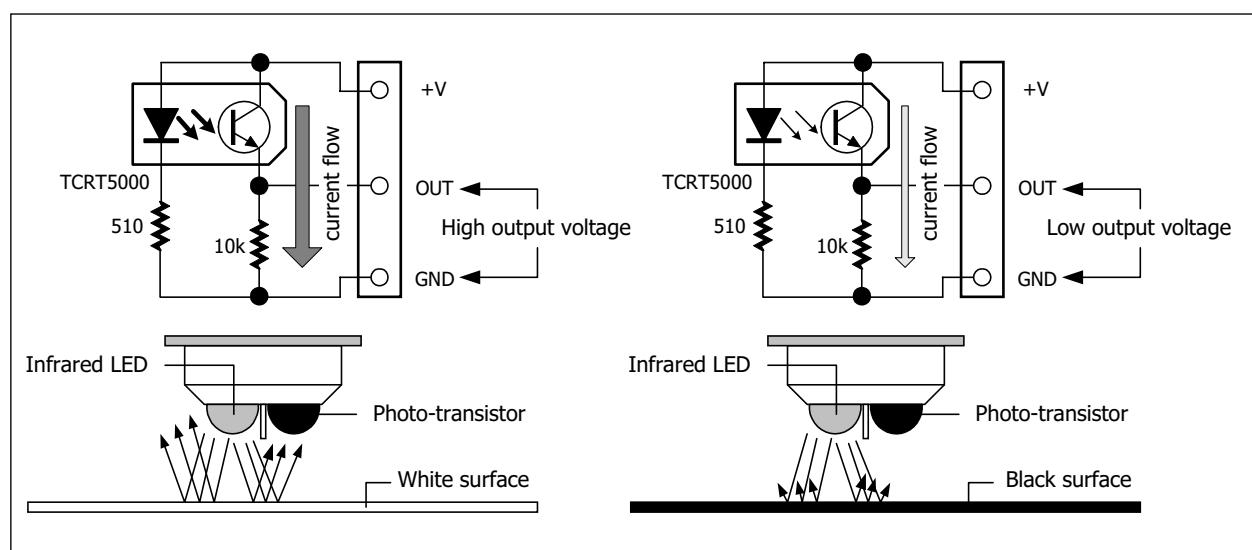

Figure 7-1 The operation of ZX-03 Infrared reflector sensor board with white and black surface
The heart of this sensor is TCRT5000 reflective object sensor. It is designed for close proximity infrared (IR) detection. There's an infrared diode behind its transparent blue window and an infrared transistor behind its black window. When the infrared emitted by the diode reflects off a surface and returns to the black window, it strikes the infrared transistor's base, causing it to conduct current. The more infrared incident on the transistor's base, the more current it conducts. The figure 7-1 shows the operation of ZX-03 sensor.